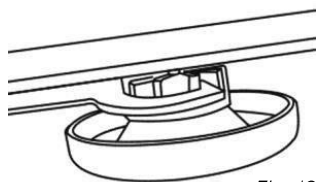

Fig. 12
1. Use the spanner (#40) to hold the grinding wheel's valve (#5) in place (Fig. 12).